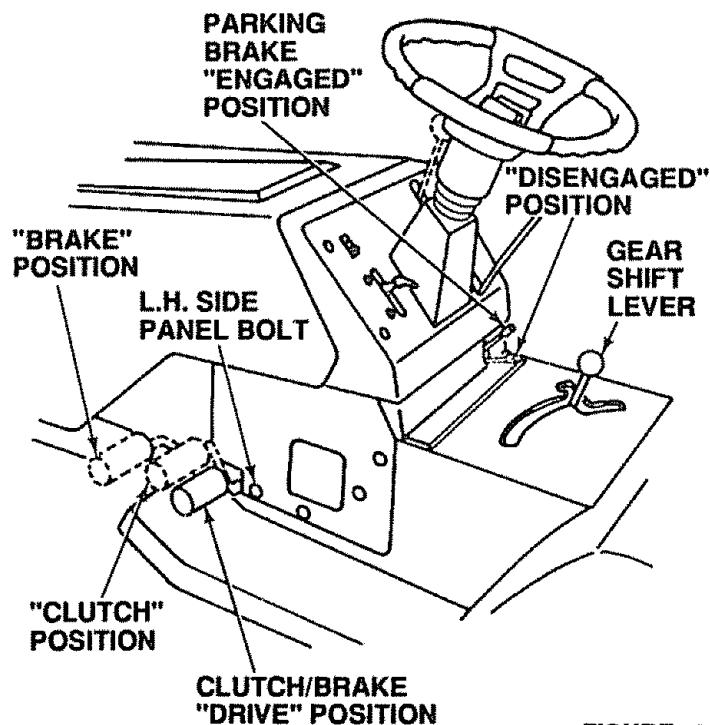

FIGURE 19
- Connect the other end of the **BLACK** jumper cable to the L.H. side panel bolt (Fig. 19) **NOTE: KEEP AWAY FROM GAS TANK AND BATTERY.**
- L.H. side panel bolt (Fig. 19)